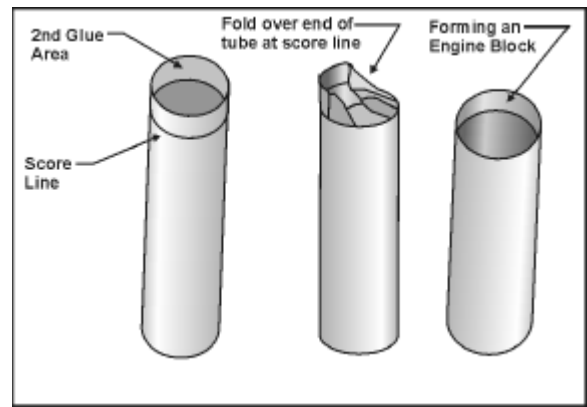

Figure 11
- Returning to the Engine Tube from Step 6, remove the engine casing and the tape that was used to hold the edges down while drying. Run a thin film of glue just inside the end of the Engine Tube with the score line (where it is marked "Second Glue Area", covering $\frac{1}{4}$ " inside the tube). Using your finger, and referring to **Figure 11**, carefully fold the edge of the Engine Tube into the inside of the tube as shown. This will form your Engine Block.